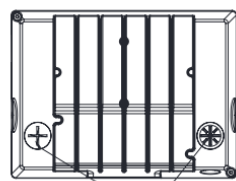

Figure 6
2. After adjusting the required control function (figure 5), tighten the metal plug and the plastic plug clockwise. (Figure 6)